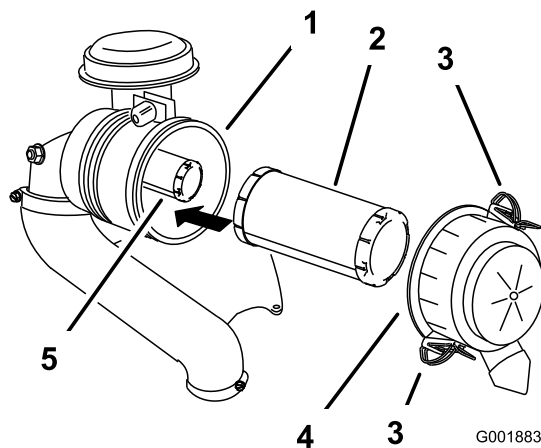

Figure 45
2. Release the latches on the air cleaner and pull the air cleaner cover off the air cleaner housing (Figure 45).
4. Gently slide the primary filter out of the air cleaner housing (Figure 45).
2. If the safety filter is being replaced, carefully slide it into the filter body (Figure 45).
3. Carefully slide the primary filter over the safety filter (Figure 45).
5. Install the air cleaner cover with the side indicated as **up** facing upward and secure the latches (Figure 45).